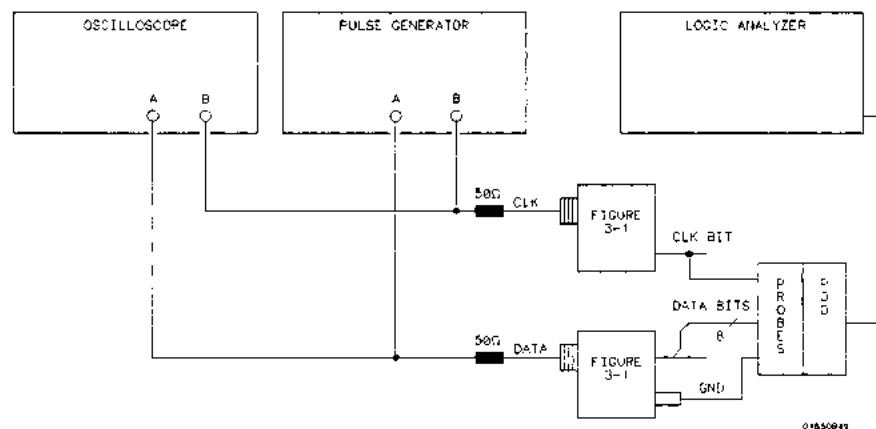

Figure 3-11. Test Setup for Data Test 2
1. Connect the HP 1652B/1653B and test equipment as in figure 3-11.